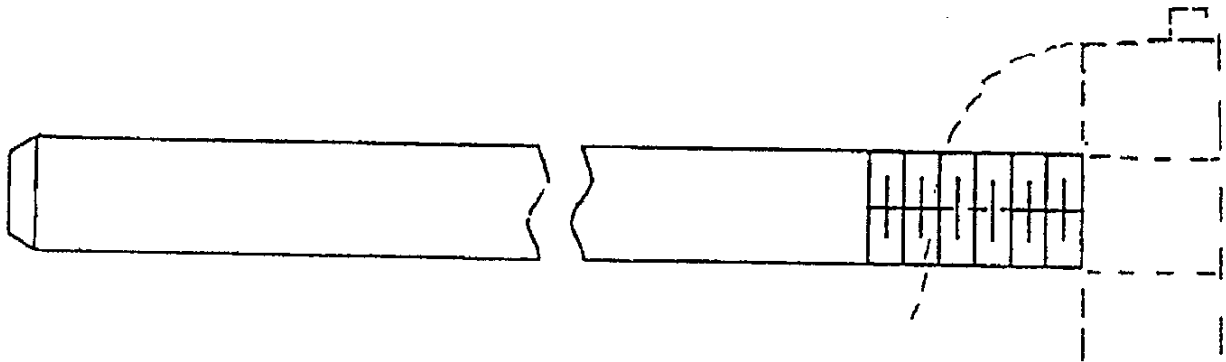

Figure 4
10. Install three bushing guide rods T13436 (Fig. 4) 120 degrees apart on the pocket flange of the pole tank.